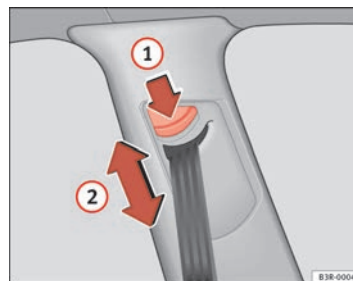

Fig. 16 Belt height adjuster
- Press button ⇒ fig. 16  to adjust the belt height.
- Take hold of the top guide fitting and slide it up or down so that the shoulder part of the seat belt is positioned roughly midway over the shoulder, although **it must never rest against the neck** ⇒ page 25, fig. 16 ② ⇒ ⚠ in “Seat belt position” on page 23.